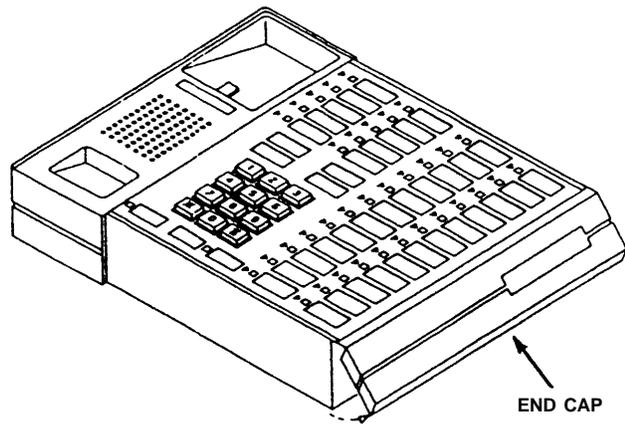

Figure 2
6. Remove End Cap by rotating bottom edge of End Cap out and up. (See Figure 2.)